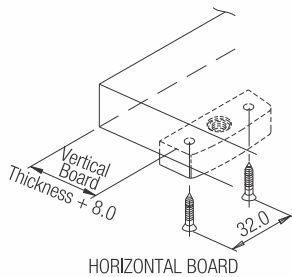

Fig 2
2. Drill in horizontal board as per Fig. 2.